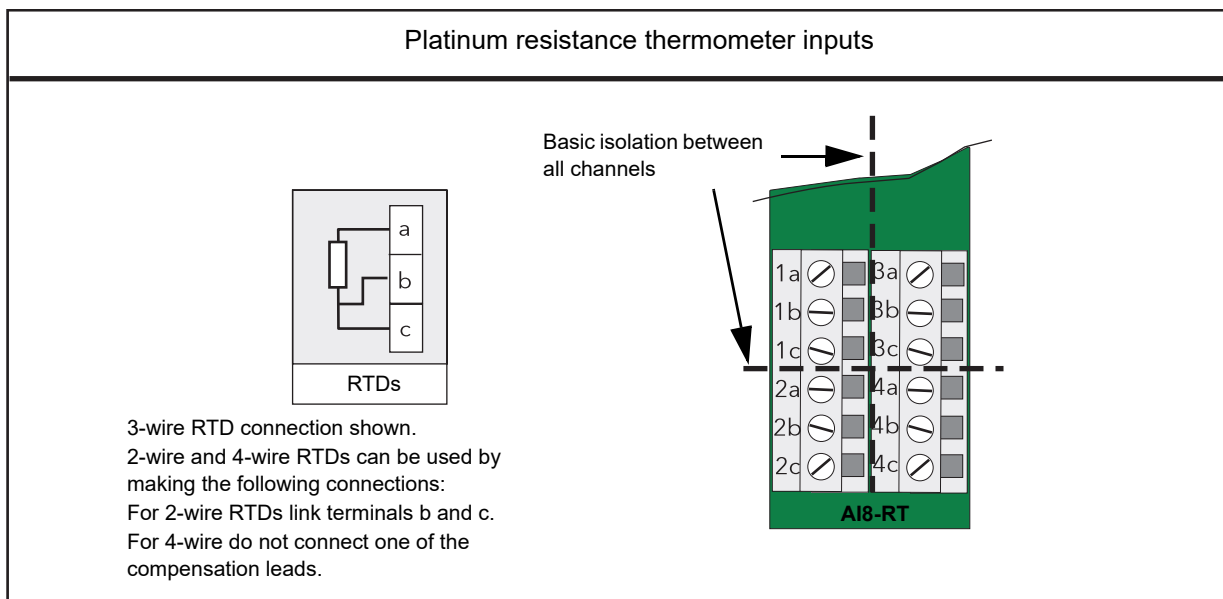

Figure 20 AI8-RT terminal unit
- **AI8-RT** — four channels of isolated platinum resistance thermometer (RTD) inputs, standard polling rate. See Figure 20 for terminal pin-out details.